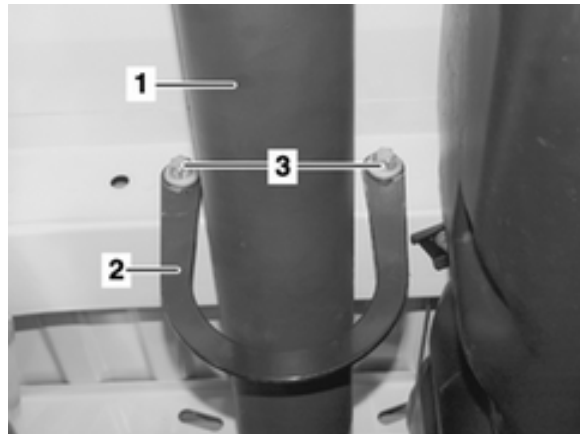

Figure 1 (1 Drive shaft, 2 Drive shaft strap/loop, 3 Bolts)
1.  Retrofit drive shaft strap/loop (2, Figure 1) to cross member with mounting bolts (3).